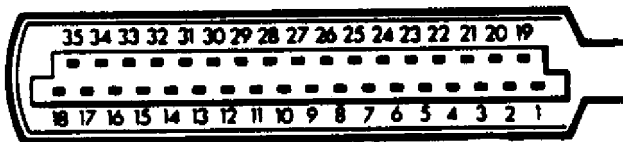
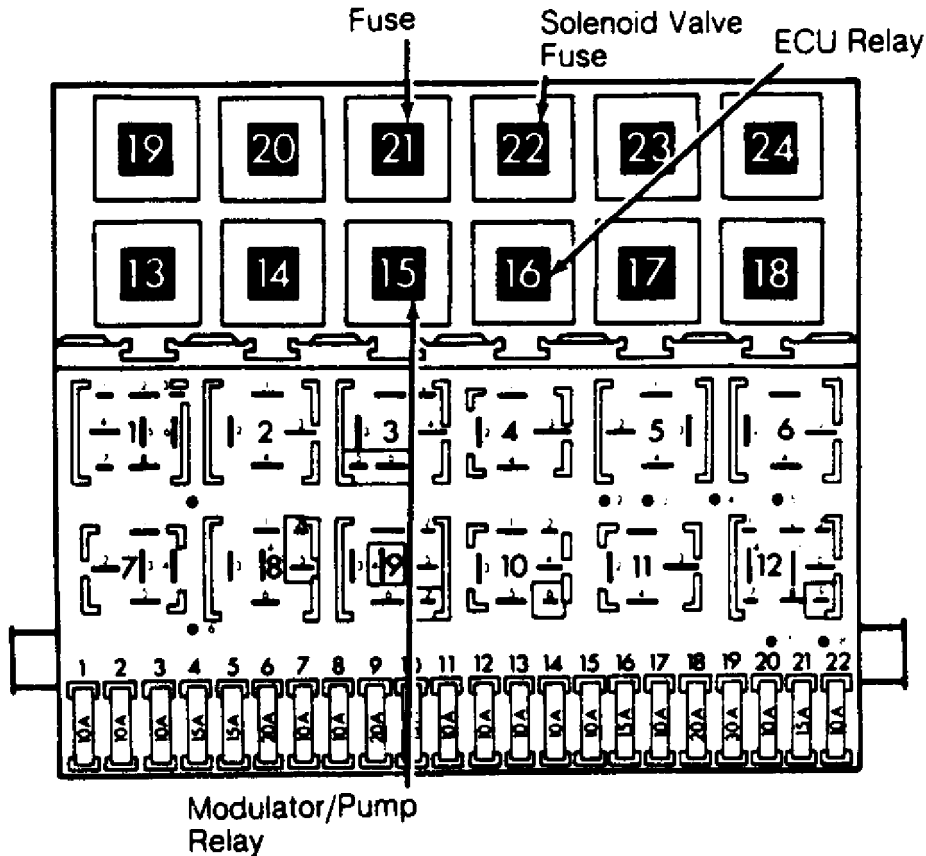

Fig. 2: Identifying ECU Connector Terminals
Fig. 3: Locating Relays
Turn ignition off. Unplug ECU connector. Turn ignition on. Using a voltmeter, check voltage between ECU connector terminals No. 1 and 2. See Fig. 2. If voltage is 10 volts or more, go to next test. If voltage is less than 10 volts, check battery, ground, ABS fuse, relay and wiring. Repair as necessary.
Connect a jumper wire between ECU connector terminals No. 2 and 8. See Fig. 2. Turn ignition on. Using a voltmeter, check voltage between ECU connector terminals No. 1 and 3. If voltage is 10 volts or more, go to next test. If voltage is less than 10 volts, check ABS fuse. If fuse is faulty, replace and retest. If fuse is okay, check wiring. If wiring is faulty, repair and retest. If wiring is okay, replace relay and retest.
1) Turn ignition off. Unplug hydraulic modulator/pump connector. Depress brake pedal 25 times. Turn ignition on. Using a voltmeter, measure voltage between ECU connector terminals No. 1 and 32. See Fig. 2. If voltage is 10 volts or more, go to RIGHT REAR WHEEL SPEED SENSOR VOLTAGE TEST under SYSTEM TESTING.
2) If voltage is less than 10 volts, check hydraulic modulator/pump fuse. If fuse is okay, check wiring between ECU connector terminal No. 32 and hydraulic modulator/pump connector terminal No. 1 (large gauge Red/Black wire). See Figs. 2 and 4-9. If wiring is not okay, repair wiring, and retest. If wiring is okay, replace relay, and retest.
Connect an AC voltmeter between ECU connector terminals No. 4 and 22. See Fig. 2. Rotate right rear wheel at one revolution per second. Measure voltage with wheel rotating. If voltage is 0.075 volt or more, go to next test. If voltage is less than 0.075 volt, check wheel speed sensor and/or toothed ring for damage, wear and proper installation. If damage or wear is found, replace faulty component and retest. If not properly installed, reposition and retest. If components are okay, replace wheel speed sensor and retest.
Connect an AC voltmeter between ECU connector terminals No. 6 and 24. See Fig. 2. Rotate left rear wheel at one revolution per second. Measure voltage with wheel rotating. If voltage is 0.075 volt or more, go to next test. If voltage is less than 0.075 volt, check wheel speed sensor and/or toothed ring for damage, wear and proper installation. If damage or wear is found, replace faulty component and retest. If not properly installed, reposition and retest. If components are okay, replace wheel speed sensor and retest.
Connect an AC voltmeter between ECU connector terminals No. 7 and 25. See Fig. 2. Rotate right front wheel at one revolution per second. Measure voltage with wheel rotating. If voltage is 0.075 volt or more, go to next test. If voltage is less than 0.075 volt, check wheel speed sensor and/or toothed ring for damage, wear and improper installation. If damage or wear is found, replace faulty component, and retest. If component is improperly installed, reposition component, and retest. If components are okay, replace wheel speed sensor, and retest.
and 23. See Fig. 2. Rotate left front wheel at one revolution per second. Measure voltage with wheel rotating. If voltage is 0.075 volt or more, go to next test. If voltage is less than 0.075 volt, check wheel speed sensor and/or toothed ring for damage, wear and proper installation. If damage or wear is found, replace faulty component and retest. If not properly installed, reposition and retest. If components are okay, replace wheel speed sensor and retest.
Turn ignition off. Using an ohmmeter, check for continuity between ECU connector terminals No. 1 and 3, and between terminals No. 1 and 20. See Fig. 2. If there is continuity at both test points, go to next test. If there is no continuity at either or both test points, check wiring. If wiring is faulty, repair and retest. If wiring is okay, replace relay and retest.
1) Turn ignition off. Remove jumper wire from previous test. Using an ohmmeter, check for continuity between ECU connector terminals No. 1 and 11. See Fig. 2. If there is continuity, go to next step.
3) Reconnect jumper wire between ECU connector terminals No. 1 and 11. Check for continuity between ECU connector terminal No. 11 and valve block connector terminal No. 1 (Brown wire). See Figs. 2, 4-9. If there is no continuity, repair wiring and retest.
Turn ignition off. Ensure brake fluid level is okay and fluid level sensor switch float is in correct position (switch is in closed position). Ensure accumulator is fully charged and pump is not operating. Using an ohmmeter, check for continuity between ECU connector terminals No. 9 and 10. See Fig. 2. If there is continuity, switch is okay. If continuity does not exist, check wiring. If wiring is okay, replace switch, and retest.
Turn ignition off. Using an ohmmeter, measure resistance between ECU connector terminals No. 4 and 22. See Fig. 2. If resistance is 800-1400 ohms, go to next test. If resistance is not as specified, check resistance at right rear wheel speed sensor. If resistance is correct, repair wiring and retest. If resistance is not correct, replace wheel speed sensor and retest.
Using an ohmmeter, measure resistance between ECU connector terminals No. 6 and 24. See Fig. 2. If resistance is 800-1400 ohms, go to next test. If resistance is not as specified, check resistance at left rear wheel speed sensor. If resistance is correct, repair wiring and retest. If resistance is not correct, replace wheel speed sensor, and retest.
Using an ohmmeter, measure resistance between ECU connector terminals No. 7 and 25. See Fig. 2. If resistance is 800-1400 ohms, go to next test. If resistance is not as specified, check resistance at right front wheel speed sensor. If resistance is correct, repair wiring and retest. If resistance is not correct, replace wheel speed sensor and retest.
Using an ohmmeter, measure resistance between ECU connector terminals No. 5 and 23. See Fig. 2. If resistance is 800-1400 ohms, go to next test. If resistance is not as specified, check resistance at left front wheel speed sensor. If resistance is correct, repair wiring, and retest. If resistance is not correct, replace wheel speed sensor, and retest.
Using an ohmmeter, measure resistance between ECU connector terminals No. 4 and 1. See Fig. 2. If resistance is 20,000 ohms or more, go to next test. If resistance is less than 20,000 ohms, check shielding wire for damage. Replace harness if damage is found and retest.
Using an ohmmeter, measure resistance between ECU connector terminals No. 6 and 1. See Fig. 2. If resistance is 20,000 ohms or more, go to next test. If resistance is less than 20,000 ohms, check shielding wire for damage. Replace harness if damage is found and retest.
Using an ohmmeter, measure resistance between ECU connector terminals No. 7 and 1. See Fig. 2. If resistance is 20,000 ohms or more, go to next test. If resistance is less than 20,000 ohms, check shielding wire for damage. Replace harness if damaged, and retest.
Using an ohmmeter, measure resistance between ECU connector terminals No. 5 and 1. See Fig. 2. If resistance is 20,000 ohms or more, go to next test. If resistance is less than 20,000 ohms, check shielding wire for damage. Replace harness if damaged, and retest.
Using an ohmmeter, measure resistance between ECU connector terminals No. 1 and 8. See Fig. 2. If resistance is 50-100 ohms, go to next test. If resistance is not as specified, check wiring. If wiring is faulty, repair and retest. If wiring is okay, replace relay and retest. See Fig. 3.
Using an ohmmeter, measure resistance between ECU connector terminals No. 11 and 17. See Fig. 2. If resistance is 5-7 ohms, go to next test. If resistance is not 5-7 ohms, measure between hydraulic modulator block terminals No. 1 (Brown wire) and 5 (Gray wire). See Fig. 4-9. If resistance is 5-7 ohms, check wiring between hydraulic modulator and ECU for open circuit. If resistance is not 5-7 ohms, replace hydraulic modulator.
Using an ohmmeter, measure resistance between ECU connector terminals No. 11 and 15. See Fig. 2. If resistance is 5-7 ohms, go to next test. If resistance is not 5-7 ohms, measure between hydraulic modulator terminals No. 1 (Brown wire) and 2 (Yellow wire). See Fig. 4-9. If resistance is 5-7 ohms, check wiring between hydraulic modulator and ECU for open circuit. If resistance is not 5-7 ohms, replace hydraulic modulator.
Using an ohmmeter, measure resistance between ECU connector terminals No. 11 and 35. See Fig. 2. If resistance is 5-7 ohms, go to next test. If resistance is not 5-7 ohms, measure between hydraulic modulator terminals No. 1 (Brown wire) and 7 (Blue or Black/Green wire). See Figs. 4-9. If resistance is 5-7 ohms, check wiring between valve block and ECU for open circuit. If resistance is not 5-7 ohms, replace hydraulic modulator.
Using an ohmmeter, measure resistance between ECU connector terminals No. 11 and 33. See Fig. 2. If resistance is 3-5 ohms, go to next test. If resistance is not 3-5 ohms, measure between valve block terminals No. 1 (Brown wire) and 4 (White wire). See Fig. 4-9. If resistance is 3-5 ohms, check wiring between hydraulic modulator and ECU for open circuit. If resistance is not 3-5 ohms, replace hydraulic modulator.
Using an ohmmeter, measure resistance between ECU connector terminals No. 11 and 34. See Fig. 2. If resistance is 3-5 ohms, go to next test. If resistance is not 3-5 ohms, measure between hydraulic modulator terminals No. 1 (Brown wire) and 3 (Green wire). See Fig. 4-9. If resistance is 3-5 ohms, check wiring between hydraulic modulator and ECU for open circuit. If resistance is not 3-5 ohms, replace hydraulic modulator.
Using an ohmmeter, measure resistance between ECU connector terminals No. 11 and 16. See Fig. 2. If resistance is 3-5 ohms, go to